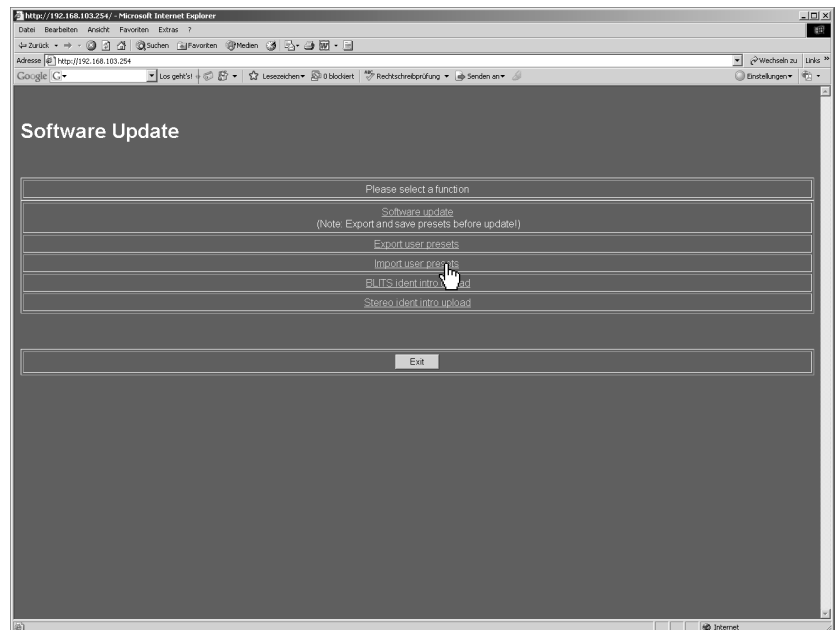
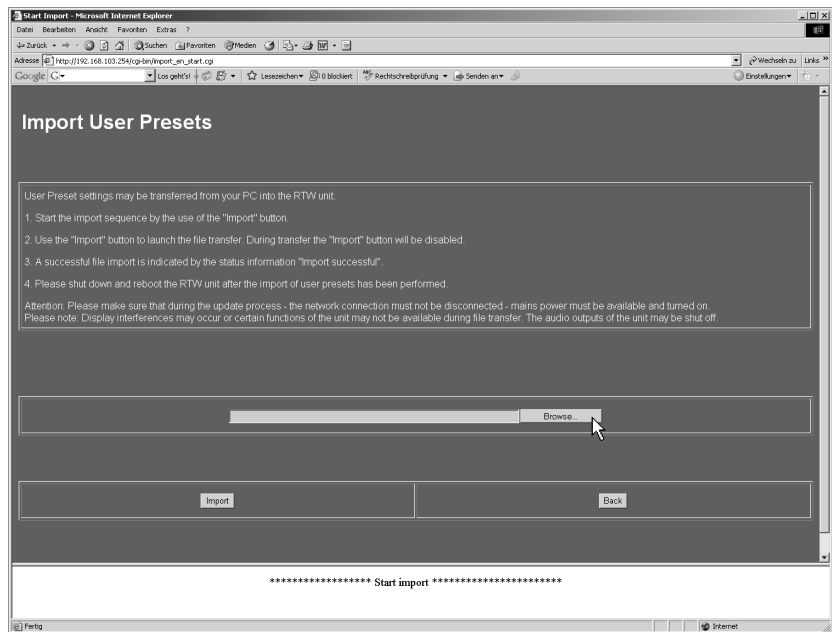
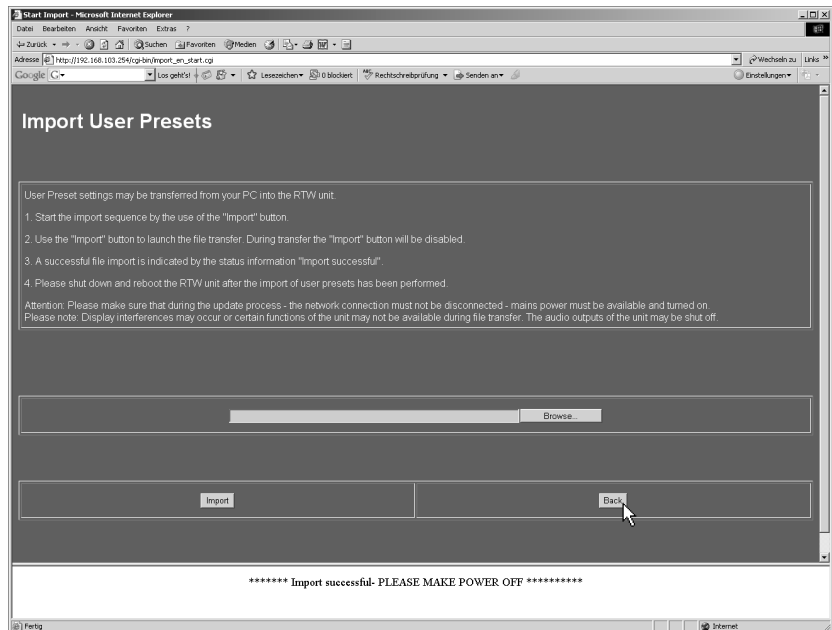

Fig. 8-18: Software Update Program menu in web browser
Fig. 8-19: Display of the Import menu page (Browse ...)
Fig. 8-23: End of the import of the user settings
2. The SurroundMonitor units should respond with a screen like the one shown in Fig. 8-18. Choose **Import user presets**. **Please note the instructions on the Import menu page** (see Fig. 8-19).
3. Please click the **Browse ...** button (see Fig. 8-19) to browse for the user settings data file.
7. When "Import successful - PLEASE MAKE POWER OFF" is displayed the Import process is finished (see Fig. 8-23). For activating the imported user settings the SurroundMonitor units have to be restarted.
8. Click the **Back** button (see Fig. 8-23) to get back to the home page (see Fig. 8-18). There please click **Finish** to leave the software update program.